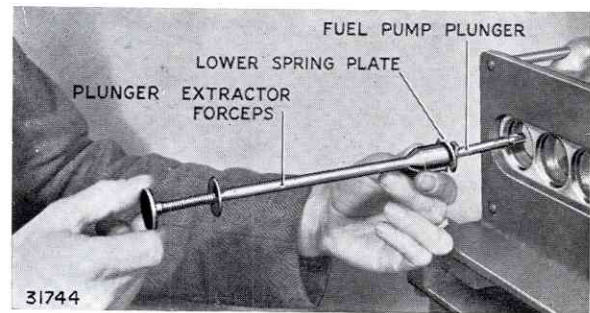

FIG. 75. REMOVING OR REPLACING PLUNGER
8. Fit lower spring plates on to the plungers and insert the plungers into the barrels through the base plug holes, using C.A.V. Tool No. ET.569 (Fig. 75).